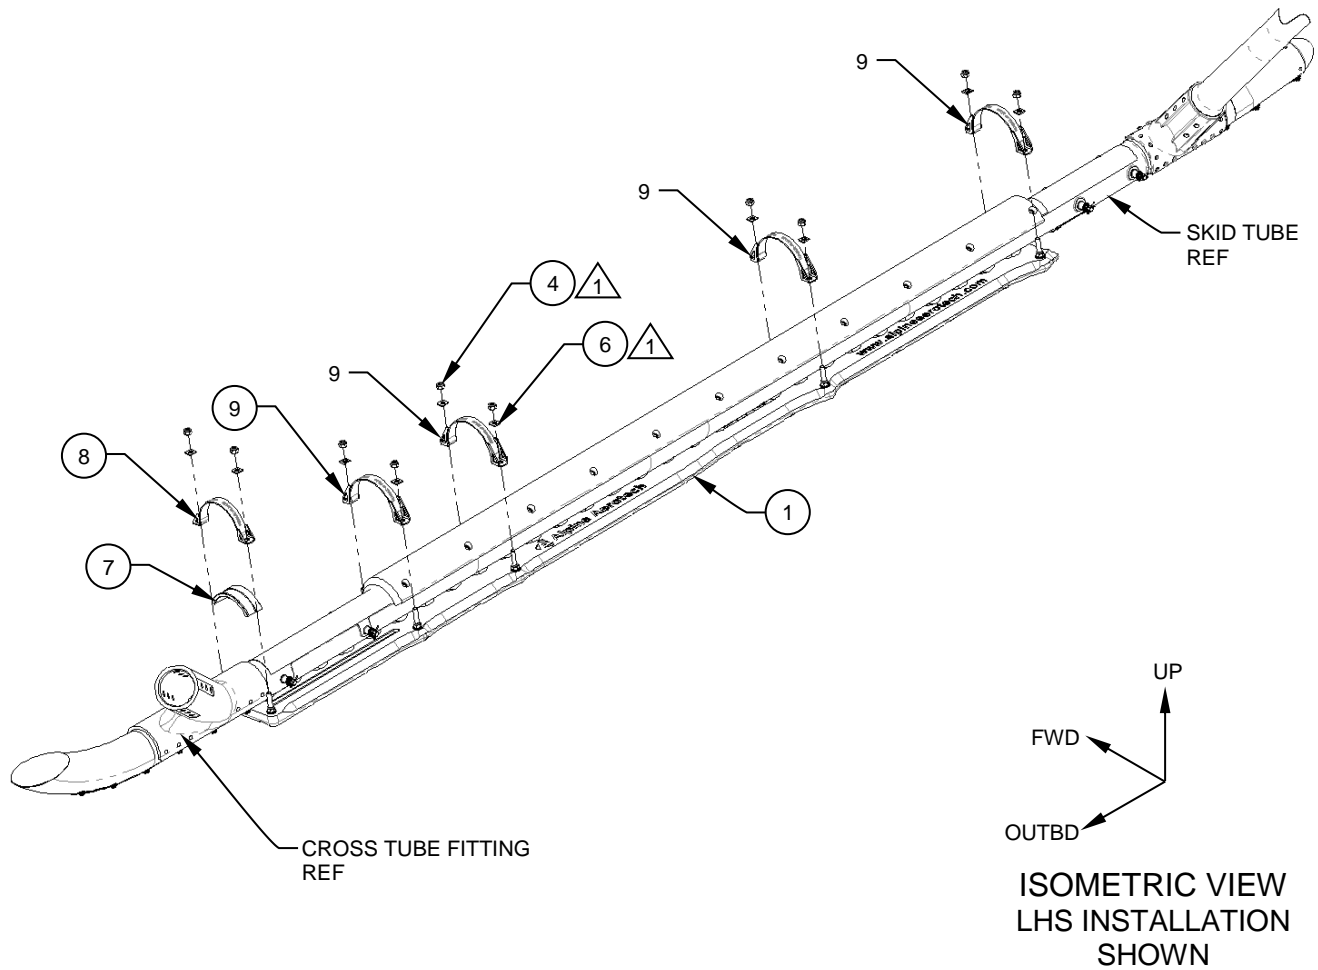

Figure 2
Reference Figure 2.
2. Once the Traction Paw, Detail (Item 1) is under the skid tube in its approximate location, place the Cap, Detail (Item 7) & Strap, Assy's (Items 8, 9) on their corresponding bolts. Reference Figure 2.
3. Install the supplied Washer (Item 6) and Nut (Item 4) on each bolt. Reference Figures 2 & 3.